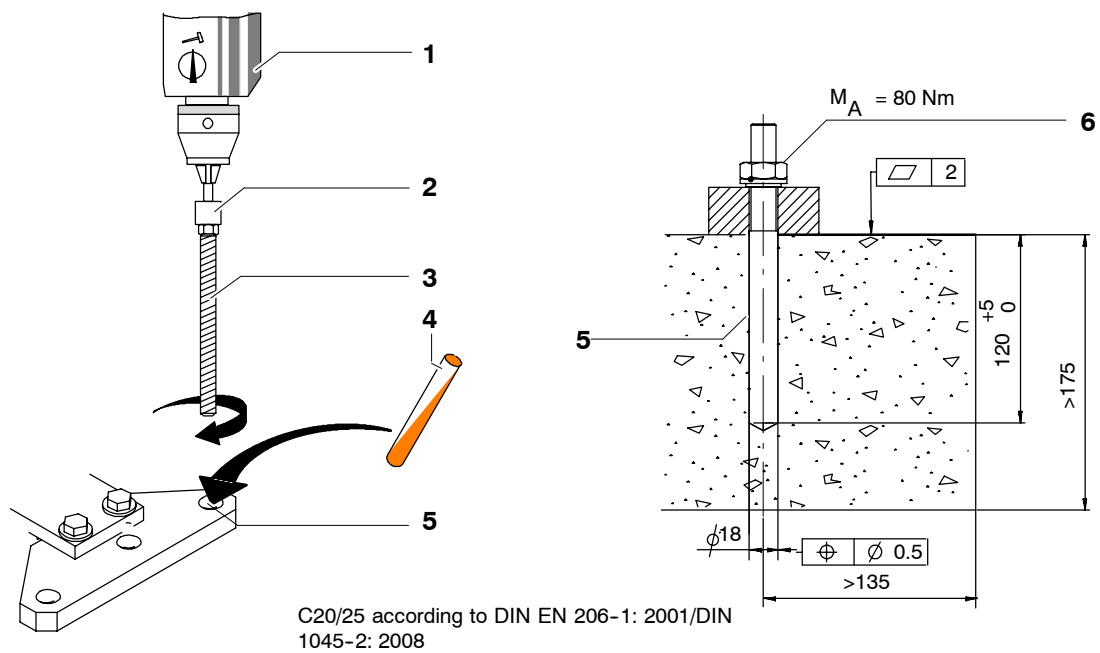

Fig. 38 Installation with resin-bonded anchors
- (10) Drill nine anchor holes (Fig. 38/5) through the holes of the bedplates; depth in concrete 120 +5/-0 mm.
- (11) Insert nine resin capsules (4).
- (12) Insert one threaded rod (3) into each anchor hole (5). To do this, secure the setting tool (2) in a hammer drill (1), attach the threaded rod, and insert it in the anchor hole at max. 750 r.p.m. The threaded rod is set correctly if the resin is completely mixed and the anchor hole in the concrete is completely filled to the upper edge. If the anchor hole is not completely filled, the threaded rod must be pulled out again immediately and a new resin capsule inserted.
- (13) Allow the resin to cure.